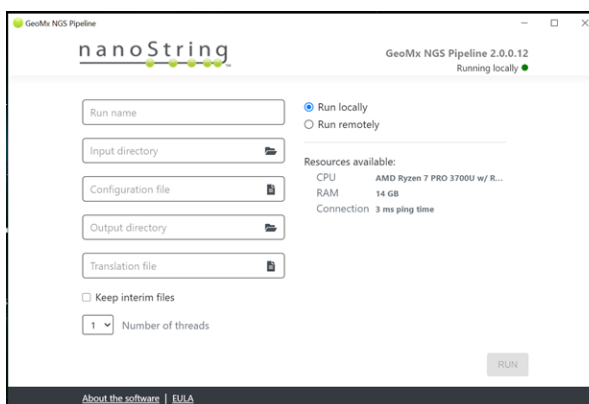

Figure 11: GeoMx NGS Pipeline run setup window
3. Create a **Run name** (see Figure 11).